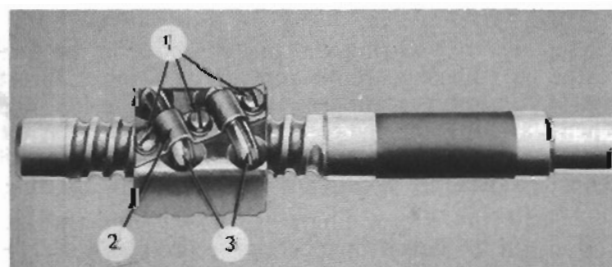

FIG. 68
Remove the screws (1, Fig. 68) and clamp (2) which retain the guides (3). Turn the nut upside down and rotate the shaft back and forth until all of the balls have dropped out of the nut. Catch the balls in a clean pan. Then remove the nut from the shaft.